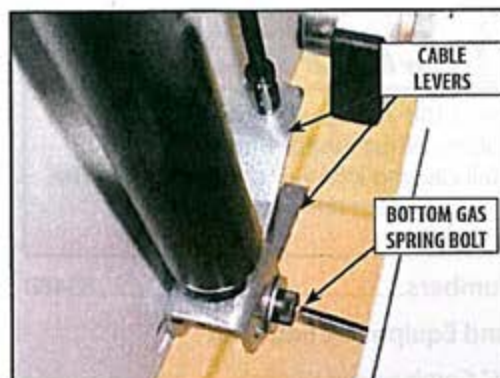

FIGURE 5.7
2. Reaching under the table, press the levers on the bottom of the Gas Spring together and release the cable by pulling the barrel end of the cable down and out. Refer to Figure 5.7.